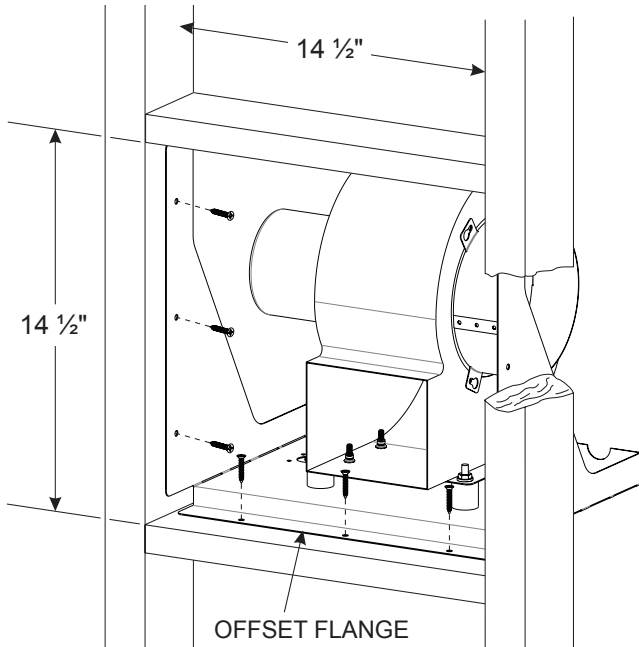

Figure 6
- Place the offset flange of the Base against the back edge of the framed opening. In addition, align the back edge of the side brackets with the back edge of the framed opening. Secure the Blower & Base assembly with the (9) 1" long drywall screws provided as shown in **Figure 6**.